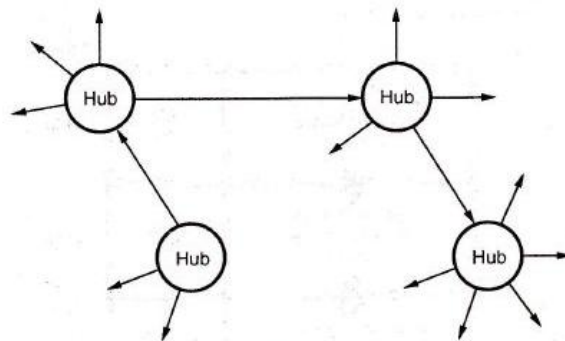

Fig. 8.5.1 Hub topology
- In hub topology channel distribution takes at hubs or central locations. Hub facilitates the cross-connect switched channels in electrical domain. Fig. 8.5.1 shows hub topology